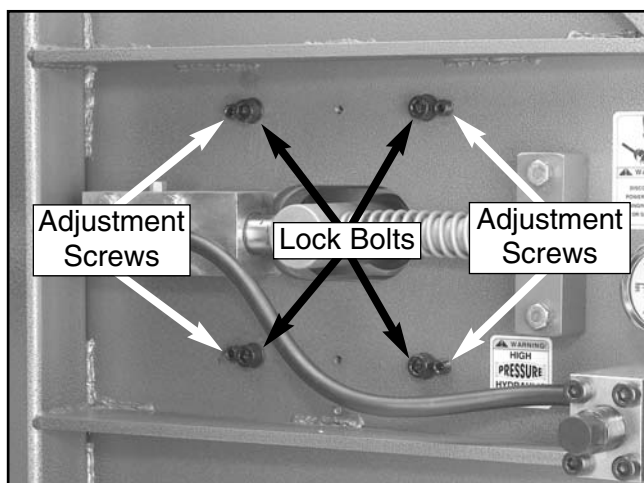

Figure 48. Tension wheel adjustment bolts.
7. Look at the backside of the wheel guard and learn the controls shown in **Figures 48 & 49** by reading the text that follows.